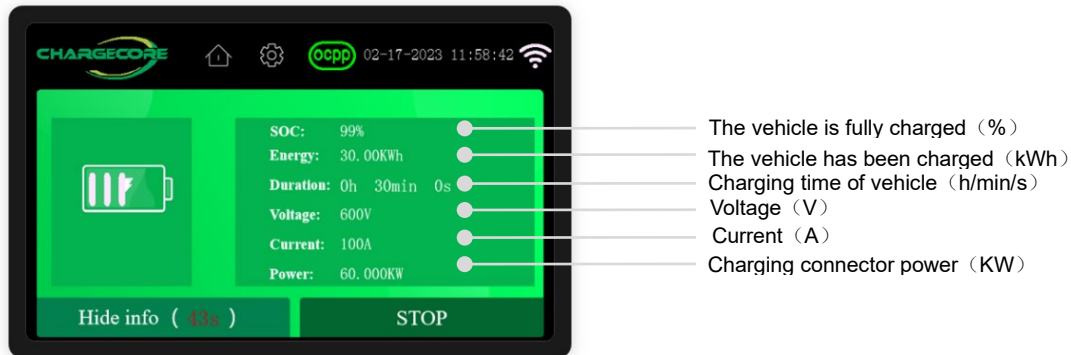

Figure 47. Charging interface
- Check vehicle charging details in real time (as shown in Figure 47)